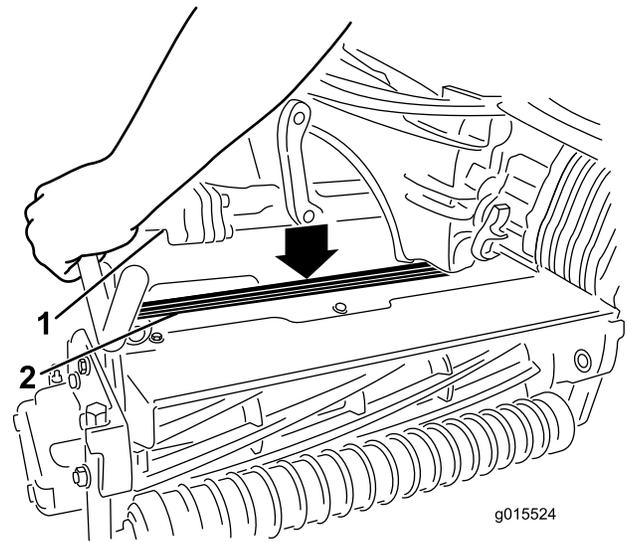
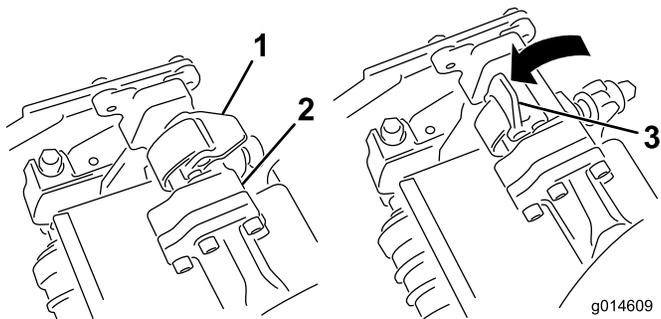

Figure 13
Figure 12
- With the latches on the suspension-arm bar pointing up (i.e., open) (Figure 12), push the suspension arm down so that the bar fits over the bar across the top of the cutting unit (Figure 13).
- Close the latches down and around the cutting-unit bar and lock them in place (Figure 12).